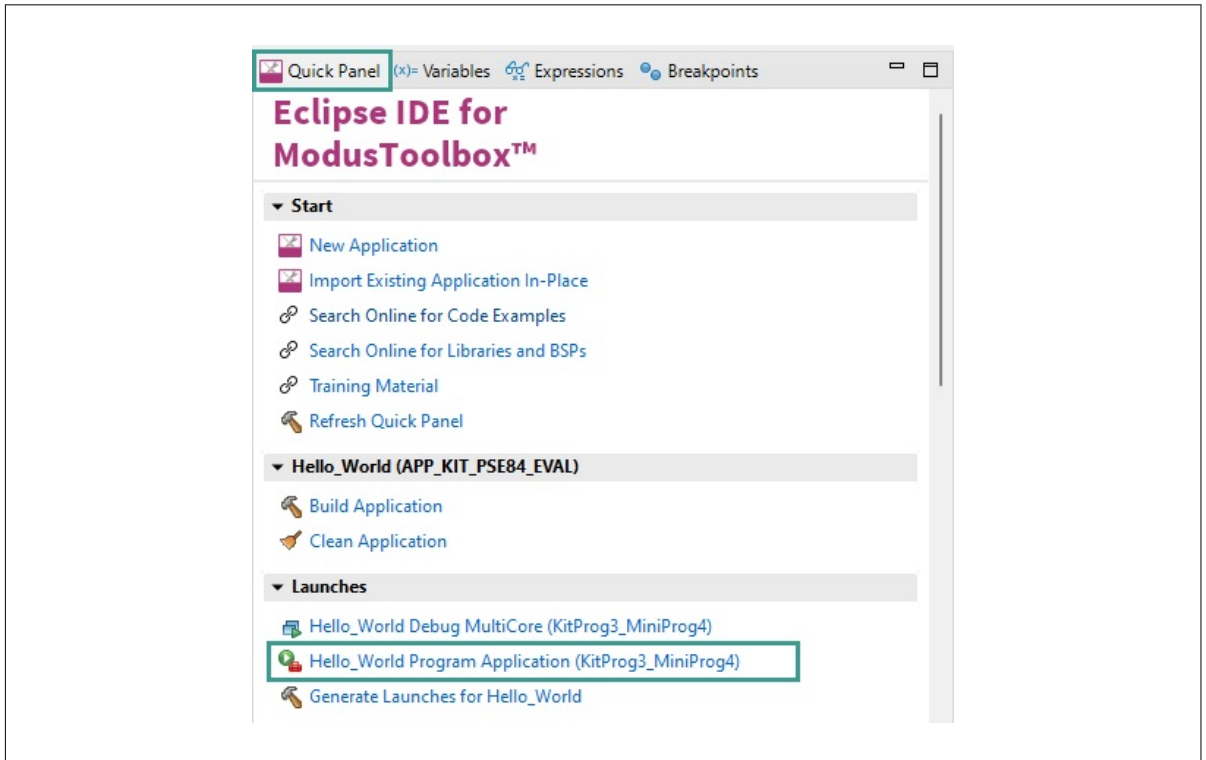

Figure 17 Programming in ModusToolbox™ software
4. To build and program a PSOC™ E84 MCU application, in the Project Creator, select ui project. In the Quick Panel, scroll to the Launches section and click the **<App_Name> Program (KitProg3_MiniProg4)** configuration as shown in Figure 17